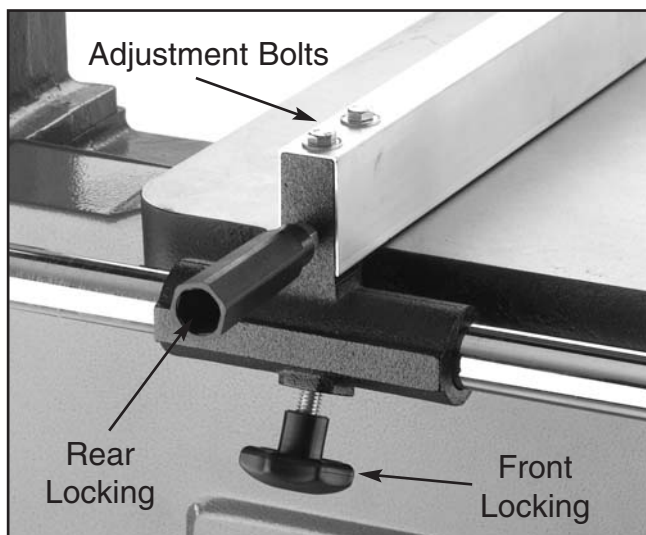

Figure 35. Fence controls.
Fence locking is controlled by turning the two handles on the front of the fence. The straight handle controls the locking clamp on the back rail and the star knob controls the locking clamp on the front rail. See **Figure 35** for control locations. Both of these knobs must be loosened when moving the fence.
If your fence does not clamp square, the adjustment bolts shown in **Figure 35** can be loosened to allow you to slightly adjust the fence one way or another. When the fence is in the desired position, tighten the bolts to lock it in place.
4. Loosen the two skewing cap screws on top of the fence. **Figure 35**.